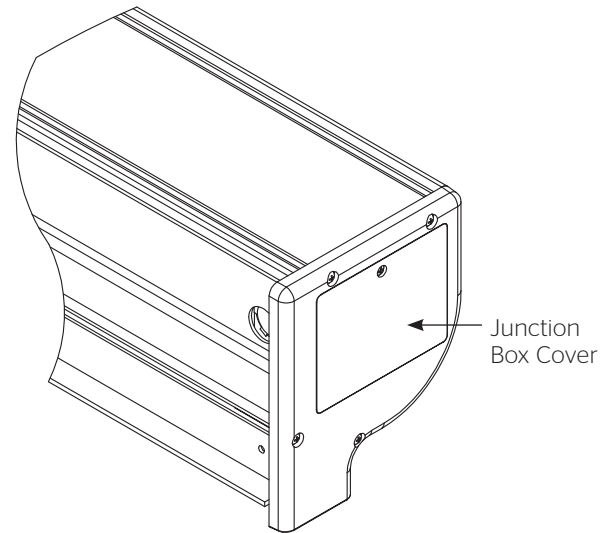

Figure 5
2. Locate small 3-position switch on back of wall switch. See Figure 5 for 120V screens or Figure 8 for 220/240V screens.